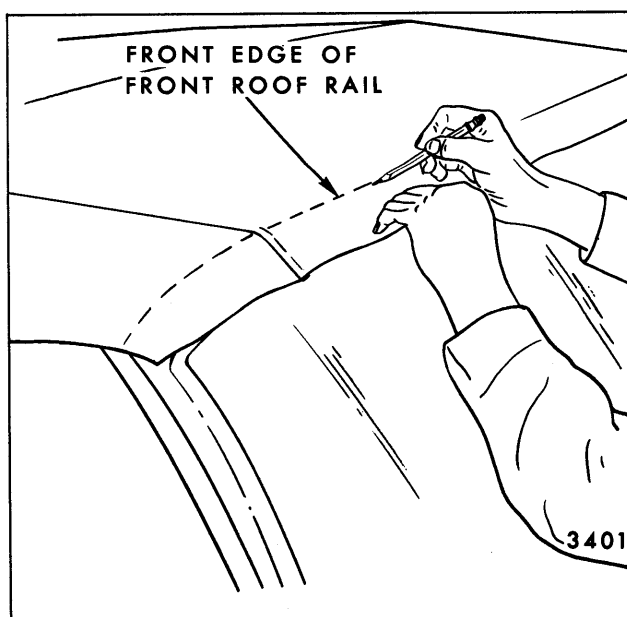

Fig. 13-38—Marking Top at Front Roof Rail
10. Lock front roof rail to windshield header. Pull top cover straight forward at seams to desired top fullness. While maintaining tension on cover over front roof rail, make pencil mark on cover outer surface along forward edge of front roof rail (Fig. 13-38).